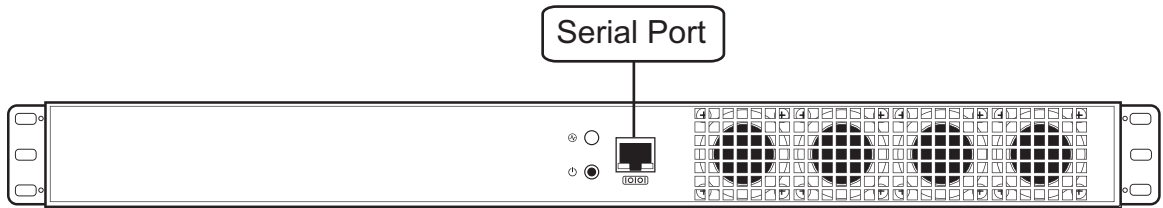

Figure 3.1 Computer to TM3000 Serial Port Connection
1. Connect a CAT5 RJ-45 (male-male) cable (supplied with TM3000) between the com port of your computer and the serial port (labelled 10101) of the TM3000 as shown in figure 3.1 on page 18. See Section A.2 on page 27 for a RJ-45 console wiring diagram.